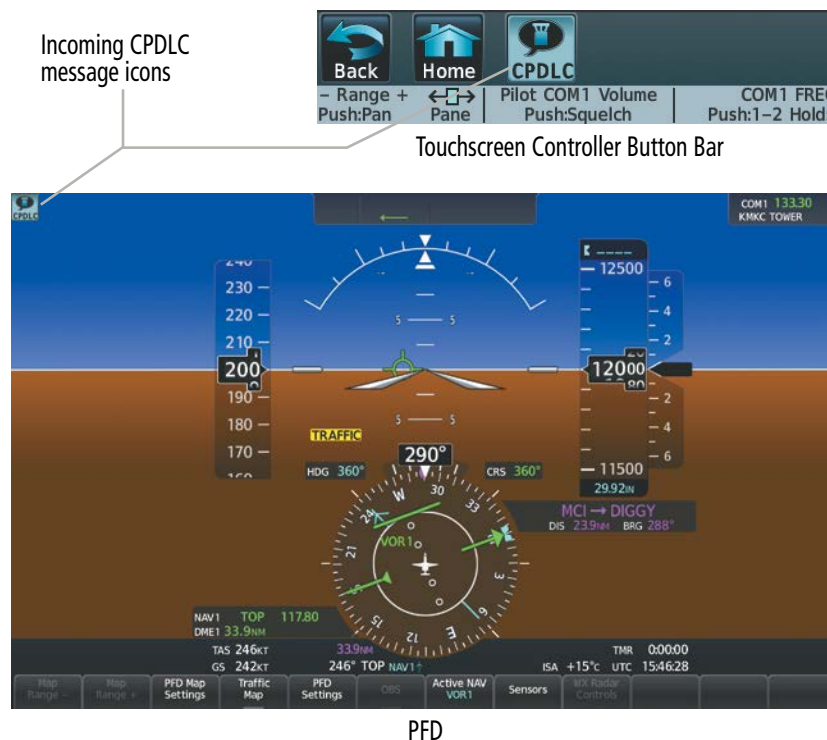

Figure 4-69 Incoming CPDLC Message Icons
- 2) Touch the **Logon** Button. The link status display indicates 'Connecting' with an animated dashed green line between the ground station antenna symbol and the ATC facility symbol, as shown in Figure 4-68. Touching the **Cancel** Button will terminate the log-on process. When connection is complete, the display indicates 'Connected' with a solid green line between the ground station antenna symbol and the ATC facility symbol as shown in Figure 4-69. The 'Next Facility' field will be automatically populated by the Current Data Authority at a later time.